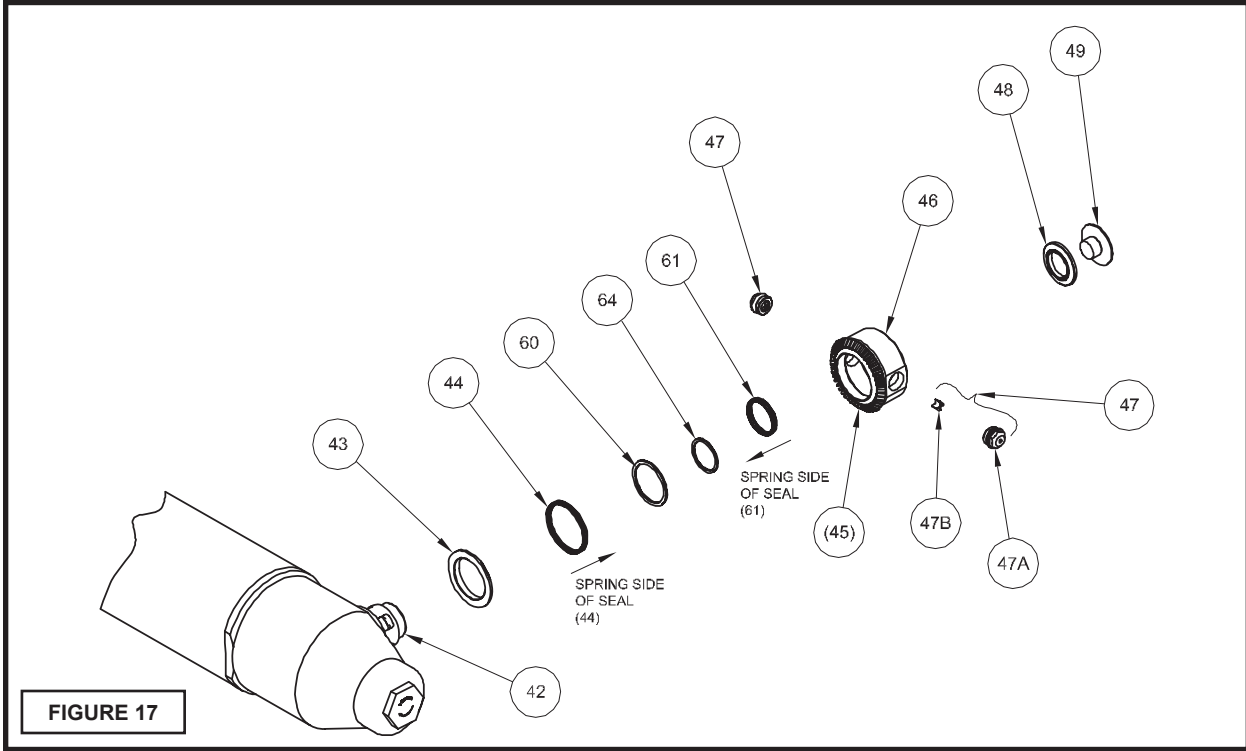

FIGURE 17
See Figure 17.
**IMPORTANT!** See Figure 17 for the correct orientation of both seals (44/61).